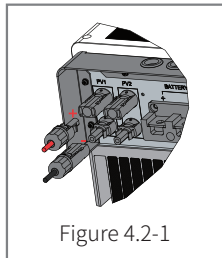

Figure 4.2-1
- **Battery Connection:** Confirm the connection between EM and battery : polarities (+/-) are not reversed, refer to figure 4.2-1